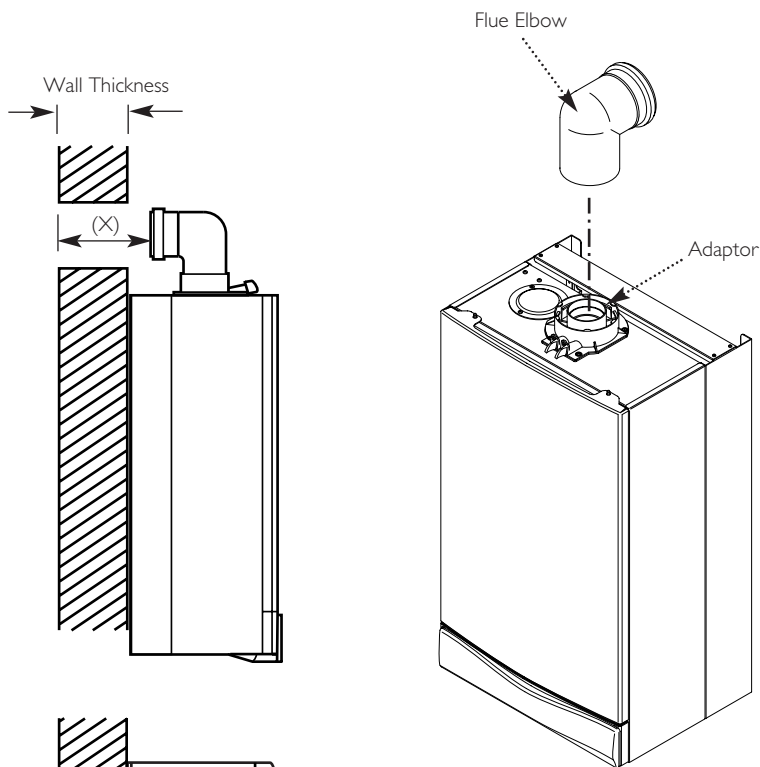

Fig. 34
2. Locate the flue elbow on the adaptor at the top of the boiler. Set the elbow to the required orientation (Fig. 34).